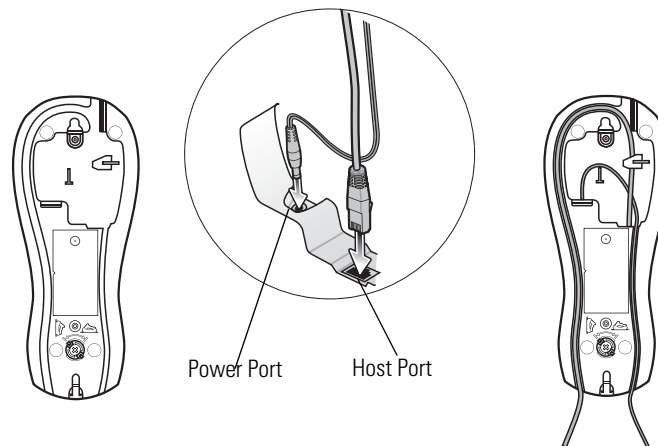

Figure 1-5. Connecting the Cables to the Cradle
1. If a power supply is connected to the cradle, disconnect it. See Figure 1-5.